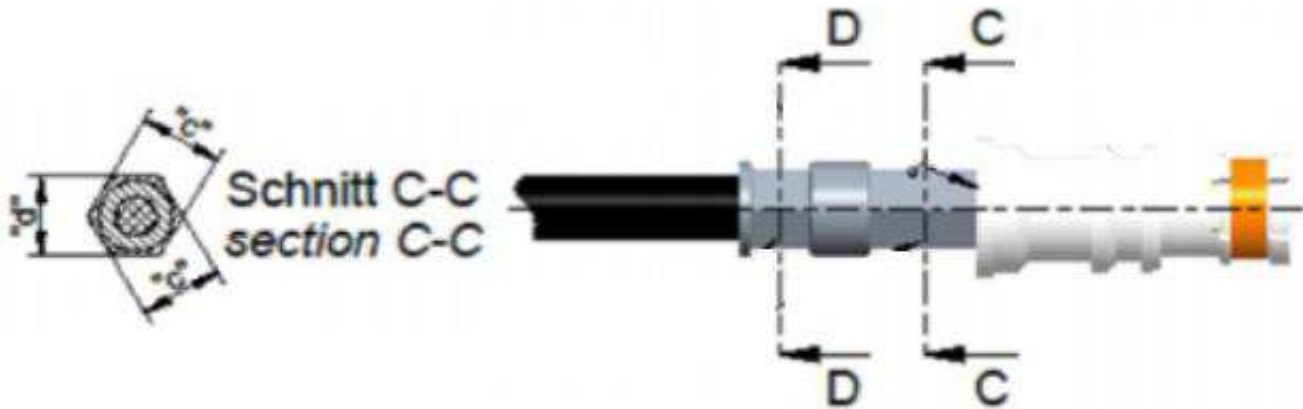

Figure 4.
*The tool is provided with a crimp adjustment feature. Initially, the crimp height should be verified as specified in Figure 4. Refer to Section 6, Crimp Height Inspection, and Section 7, Crimp Height Adjustment, to verify crimp height before using the tool to crimp desired contacts and wire sizes.*
3. Using a crimp height comparator, measure the wire barrel crimp height listed in Figure 4. If the crimp height conforms to that shown in the table, the tool is considered dimensionally correct. If not, the tool must be adjusted. Refer to Section 7, RATCHET (CRIMP HEIGHT) ADJUSTMENT.
Although the ratchet is preset prior to shipment, it is important to verify the crimp height using a micrometer or caliper. General use and subsequent wear may cause the tool to go out of adjustment. It is recommended that crimp height be inspected, and the ratchet be adjusted, if necessary, on a regular basis. Refer to Figure 4, and proceed as follows: